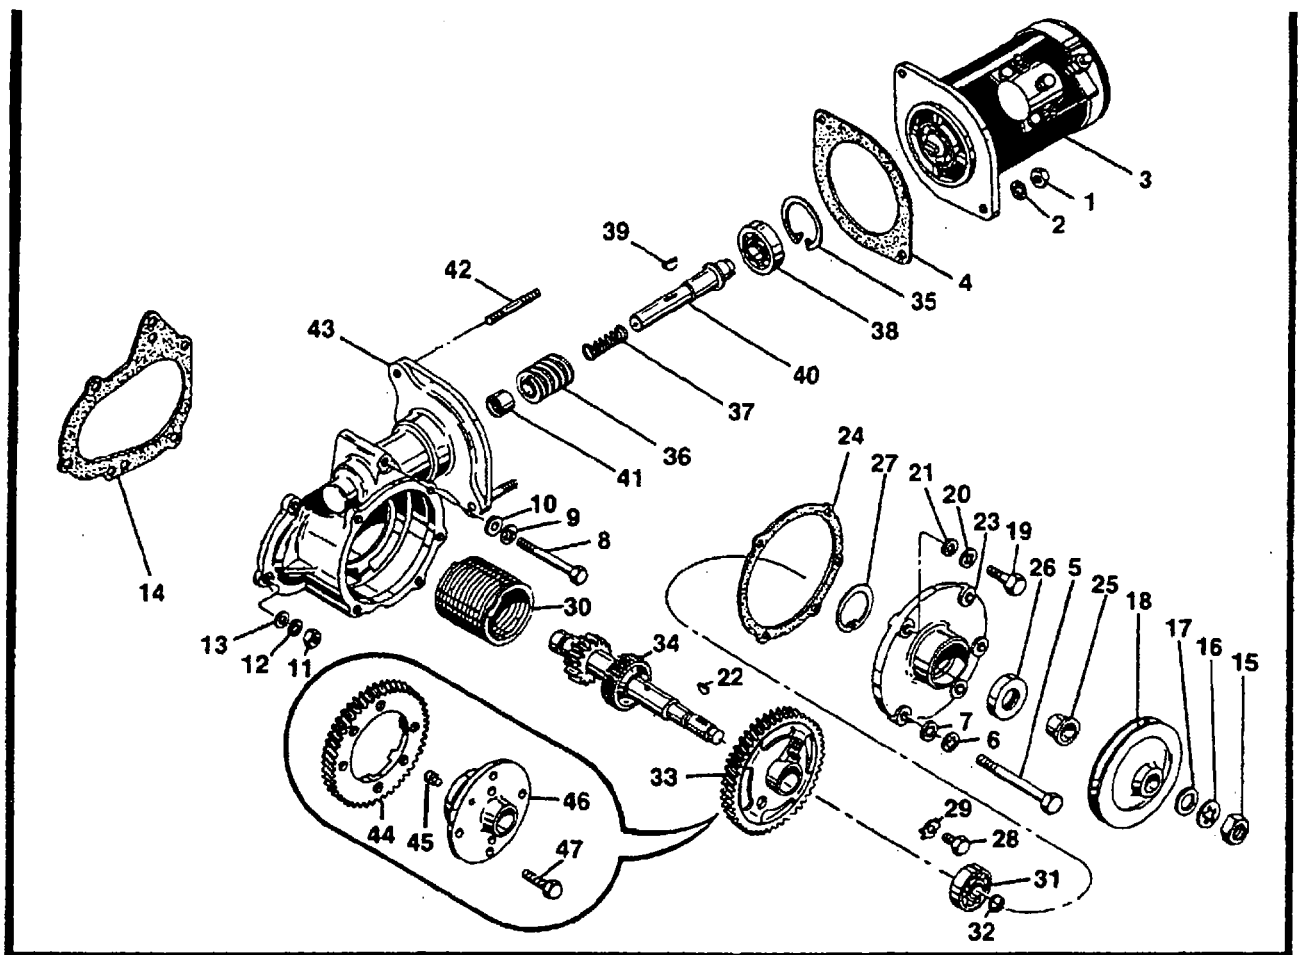

FIGURE 72-10-12. EXPLODED VIEW OF STARTER AND DRIVE ADAPTER.
72-10-12 STARTER AND DRIVE ADAPTER ASSEMBLY. (See Figure 72-10-12).
- B. Remove attaching bolts, nuts and washers, except the cover attaching bolts (5 & 19, Figure 72-10-12). Pull the adapter assembly off to the rear, and remove the gasket.
- C. Start disassembly by removing nut (15).
- E. Proceed in the order of index numbers, with the spur gear still clamped in the vise until the key (22) has been tapped out, the cover attaching parts (19 through 21) removed, and the cover assembly pulled from the gear shaft, carrying with it the sleeve (25).
- F. Remove the retaining ring (27) with Truarc No. 3 or No. 23 pliers.
- G. Use an arbor press and a round metal block of slightly smaller diameter than the hole to press out the oil seal (26).
- H. To remove the shaftgear and clutch assembly from the adapter, support the rear side of the latter on blocks and tap the front end of the clutch spring (30) with a brass drift or (very carefully) with a pin punch all around.
- I. Use a wheel puller or an arbor press to press the shaftgear (34) from the drum (33) and bearing (31) after removing the worm wheel.
- J. To remove the clutch spring, clamp the drum flange between lead-shielded vise jaws. Remove the retaining screw (28) and washer (29). Rotate the spring until its depressed rear end lies across the upper 1/4 inch hole in the flange. Insert a 3/16 inch wide screwdriver blade, and pry the spring end outward clear of the drum groove. Hold it out while pulling the spring away.
- K. To remove the worm and shaft assembly, clamp the adapter between shielded vise jaws. Use Truarc No. 5 or No. 25 pliers to remove the retaining ring (35). Insert a pin punch through the plug hole at a slight angle to the shaft (40) and tap on the chamfer around the shaft hole until the bearing is free.
- L. The worm gear may fit slightly tight on the sides of the key. Remove the Woodruff key (39) and the helical spring (37). If the ball bearing (38) is to be removed only to permit Magnaflux inspection of the shaft, support its inner race on a sleeve with an inside diameter just large enough to clear the shaft flange, and press the shaft out. (Supporting on the outer race will damage the bearing).